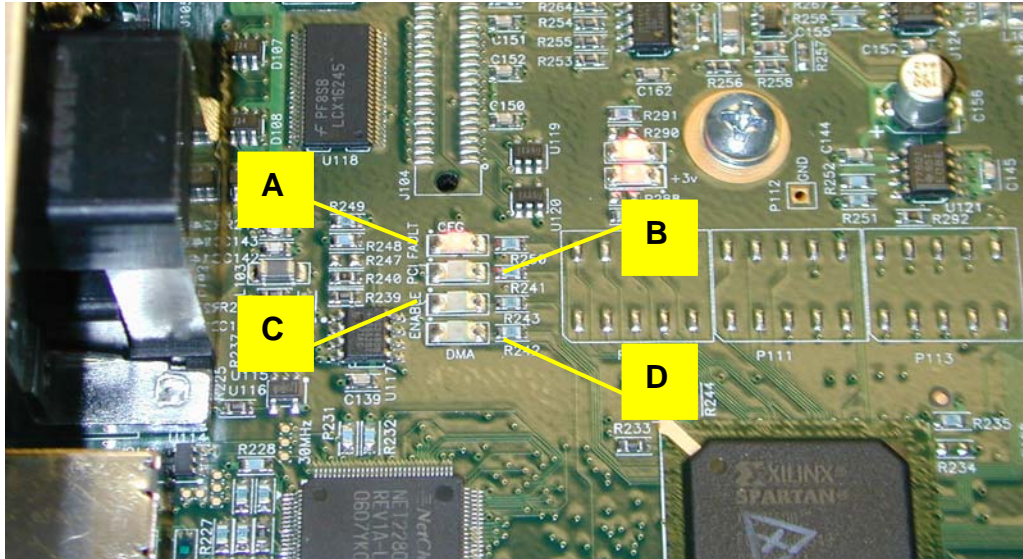

Figure 2 BZOD module
10. The LED indicators located on the BZOD module (figure 2) will indicate the instrument status during the initial instrument start up and launch of the APx500 control software.
11. Power off the instrument, and then power it on while observing the LED indicators. During the initial start-up of the APx585 instrument, the BZOD module LED indicators shown in figure 2 will be as follows: